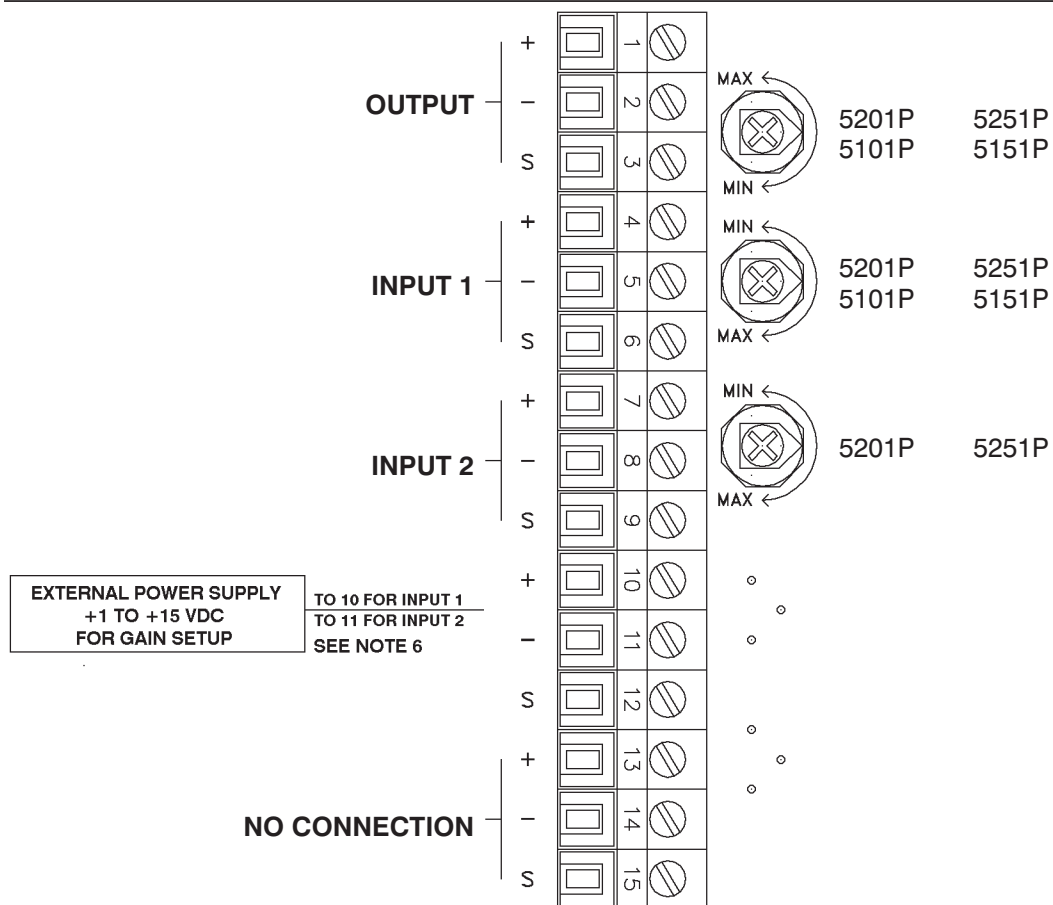

Figure 7 - 5032 Rear Panel Terminal Connections
1. Locate a proper slot in the mainframe. Mainframe slots are set up on the rear panel of the mother board according to the card type to be used. Slots are dedicated by installing the proper trimpots. Trimpots **MUST** be installed as indicated in Figures 7 and 8 for inputs and outputs to function. Microphone level inputs require 200 Ω trimpots. All others require 10 k Ω trimpots. Slot labels are applied to the mainframe at the factory above each slot position. Single input cards such as the 5101P, 5101P-8, and the 5151P are labeled 'SPECIAL', as are any specially made cards. With the exception of the SPECIALS, cards may be inserted in any slot with a matching label.